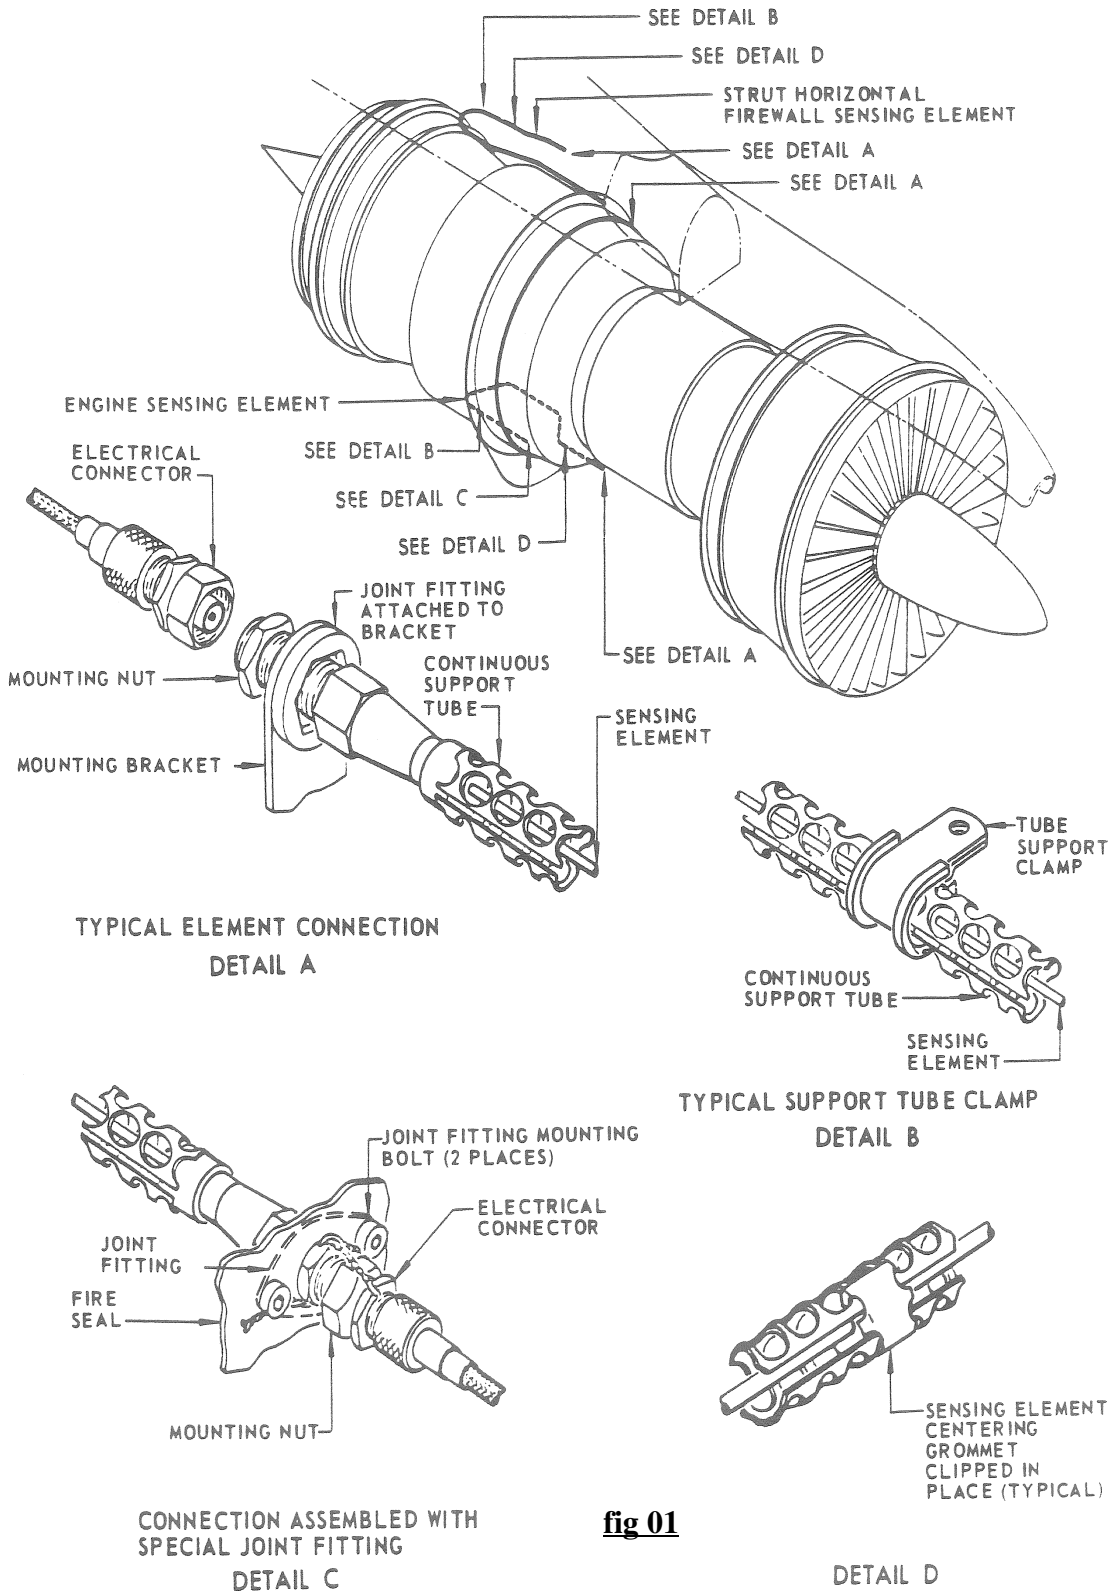

fig 01
b) Disconnect sensing element fittings (see fig 01).